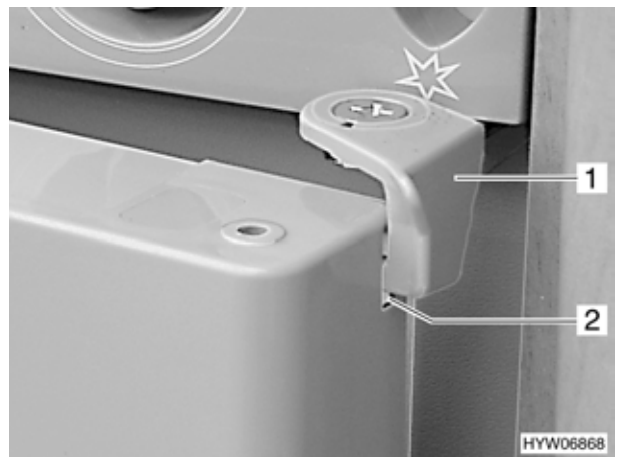

Fig. 136 Refrigerator door in the ventilation position (variant 1)
- Allow the lock to engage (Fig. 136,1) with the notch (Fig. 136,2) on the refrigerator door. The refrigerator door will then stay slightly open.